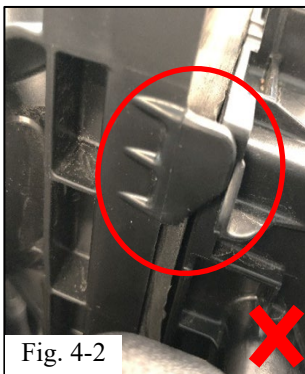
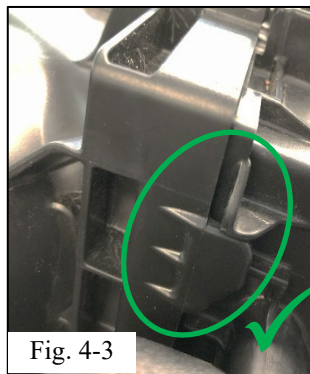

Fig. 4-2
Fig. 4-3
**⚠** (c) Seat filter housing lid tabs under filter housing tabs to ensure seal (Fig. 4-2, Fig. 4-3)